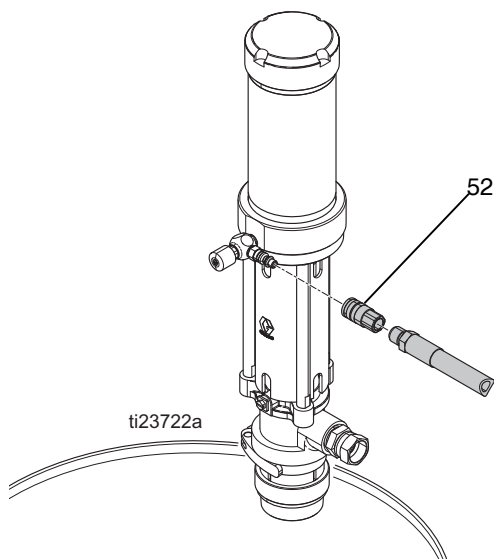

FIG. 8
5. Install air line (3/8 in. (76 mm) ID minimum) with quick disconnect air coupler (52) provided. See FIG. 8.